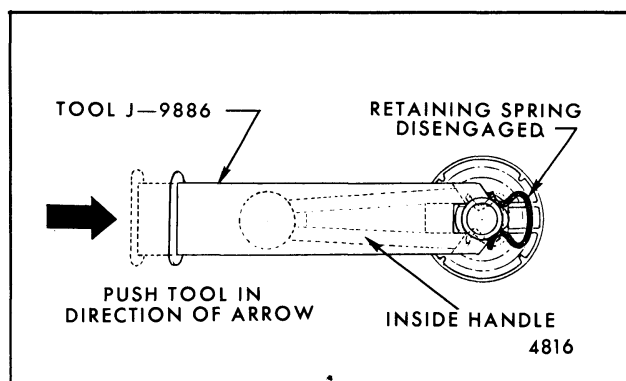

Fig. 6-5-Regulator Handle Removal
2. Where present, remove quarter window regulator handle (see Fig. 6-5).